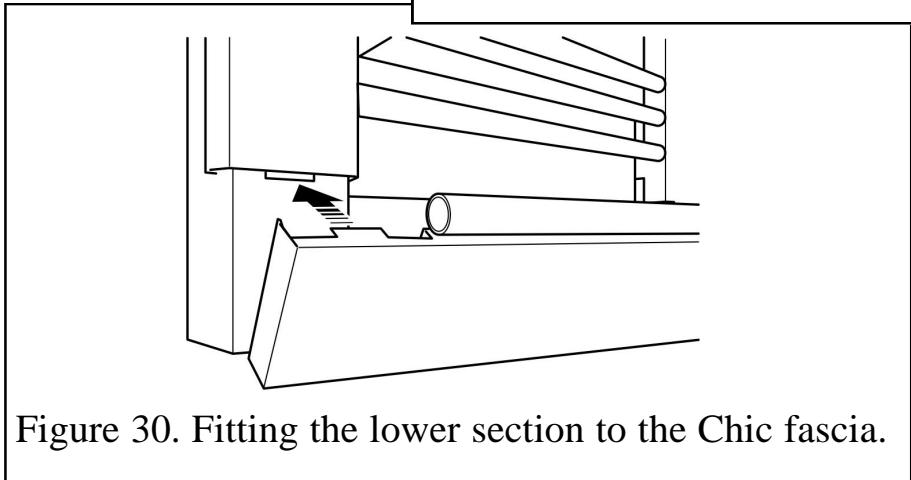

Figure 30. Fitting the lower section to the Chic fascia.
7. The lower section of the fascia has two tabs. Locate these into the slots in the fascia (See figure 30). It may be necessary to re-position the magnets that secure the lower section.